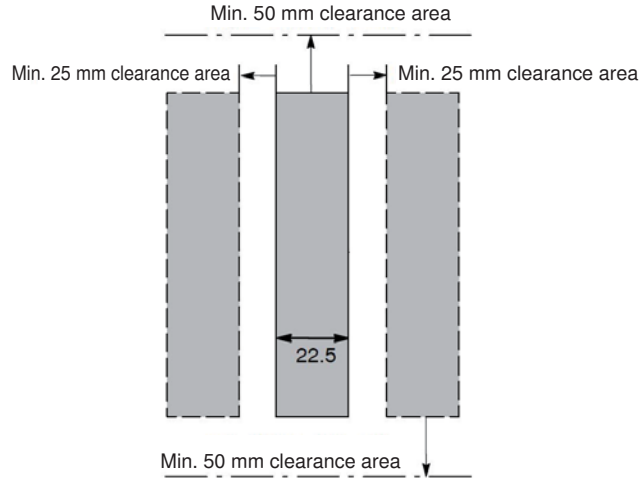

Fig. 4: Required distances
- ▶ Provide for sufficient air circulation by means of clearance area to the right, to the left, upwards and downwards. See fig. 4.